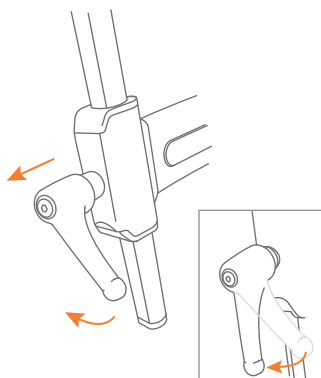

Figure 24: Set the adjustment handle in the right position.
- g. Place the adjustment handles vertically so that they point straight down. You do this by gently pulling the adjustment handle outwards and turning it to the correct position **(Figure 24)**.